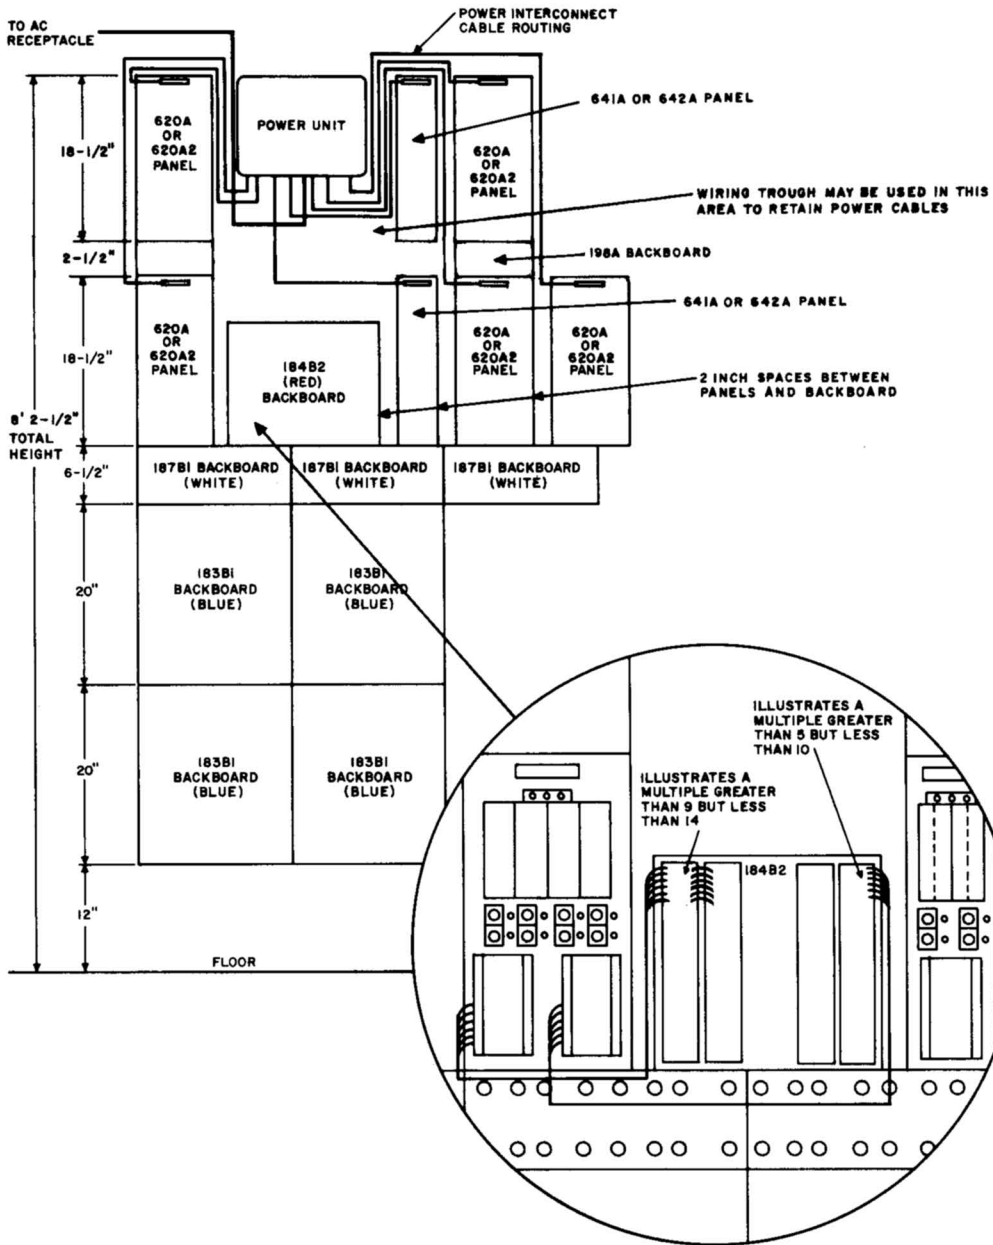

Fig. 10—Stacked Modular Apparatus and Method of Terminal Multiplying Using 184-Type Backboards
- **66B4-25 connecting block on a 184A1, B1, or B2 (RED) backboard**—for additional line service terminations in excess of 620A-type or 642A panel capacity (Fig. 10).